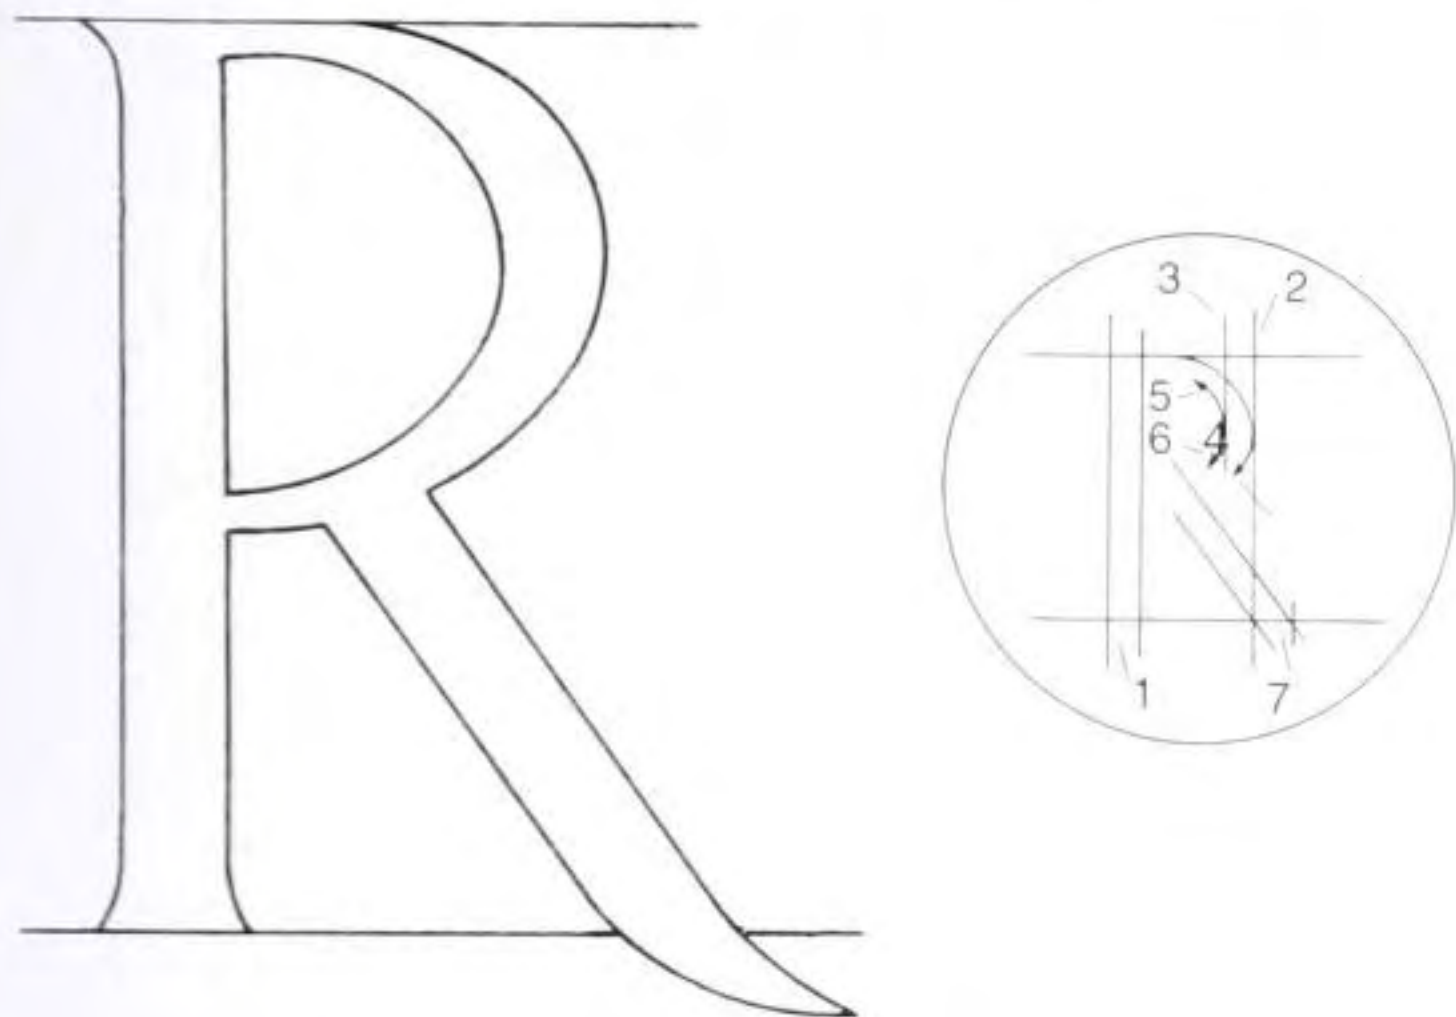

Fig 5.114 R: construction.
- 1 Refer to Fig 5.114. Carve the upright trench.